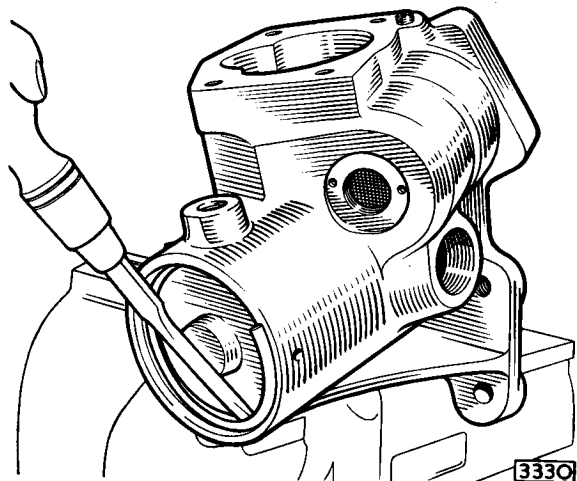
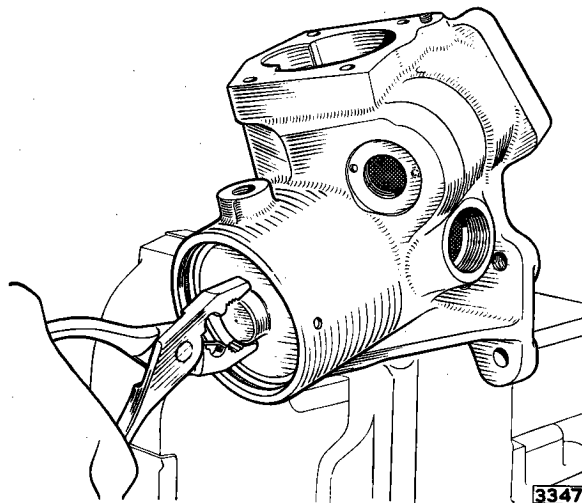

Fig. 13. Removing the cylinder cover retainer clip.
Fig. 14. Removing the cylinder cover.
Remove the cylinder cover retainer ring (20) by forcing it out of its groove with a short $\frac{3}{16}$ " (4.5 mm.) steel punch. Once out of the groove a screwdriver will ease it completely clear (Fig.13). Remove cylinder cover (18) complete with its seal. This operation is carried out by pulling on the boss in the centre of the cover with grips or pliers (See Fig.14).